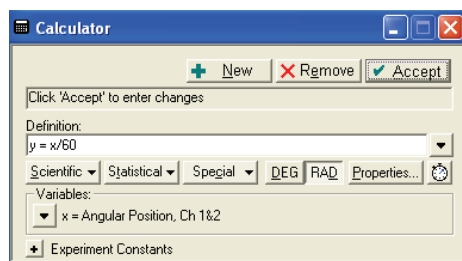

Figure 1.3: Create a Calculation
3. In the data acquisition program, use the Calculator to create a calculation of Actual Angular Position based on the Angular Position measurement made by the Rotary Motion Sensor and the ratio of the radius of the Spectrophotometer’s Degree Plate to the radius of the small post on the Pinion (Fig. 1.3). (Refer to the Set Up section for more information.)